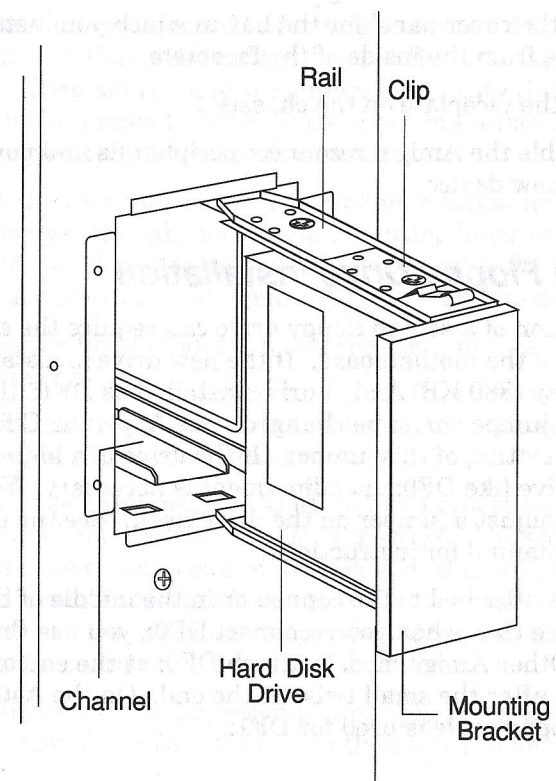

**Figure 6-2. Drive with Adapter Bracket and Guide Rails**
6. To prepare a 5.25-inch drive for installation, attach the provided guide rails (with retaining clips) to either side of the drive, as illustrated in Figure 6-2. For a 3.5-inch drive, attach an adapter bracket to the drive before attaching guide rails.